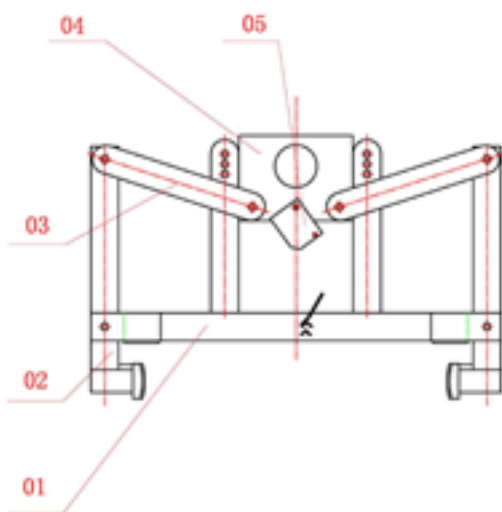

Figure 4
- (3) With grab arms open, lower unit over center of drum until lifting plate (item 4 on Figure 4) touches base assembly (item 1 on Figure 4).